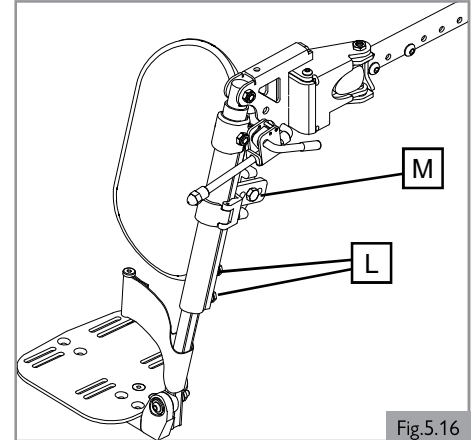

Fig.5.16
**5.11 Elevating legrest adjustment (Option) (Fig 5.16)**